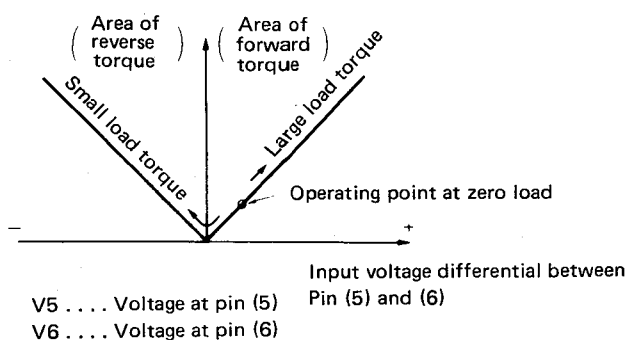

Fig.10-2 PA2008 absolute value amp input/output response.
- At absolute value amp PA2008, the input signal is compared with the reference voltage (Vref) from pin ⑫ of PA2007 and the motor winding current is generated according to the voltage difference.
- Since the speed does not reach the rated speed when the motor is started, the voltage is lower than the reference voltage (Vref; 5.15V). Therefore, the absolute value amp gives a command which generates a positive torque to the rotating direction command circuit so the motor speed is raised. Then the motor gradually reaches constant speed. (See Fig. 10-2.) (When the motor speed is faster than the rated speed, since the voltage is higher than the reference voltage, the absolute value amp applies reverse braking torque to the rotating direction command circuit so the motor speed drops. Then the speed returns to the rated speed.)